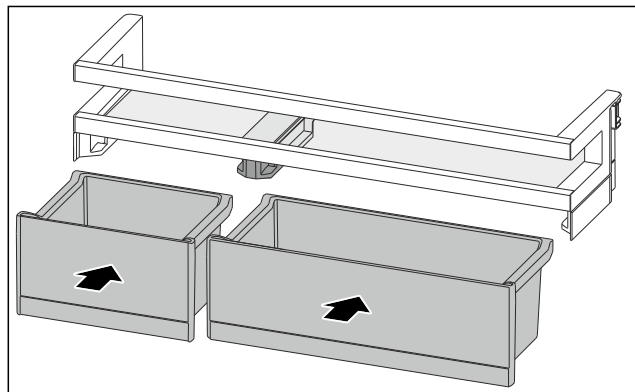

Fig. 187
- ▶ Insert the VarioBoxes in reverse order. (see Fig. 187)